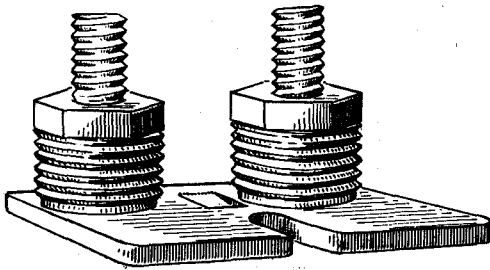
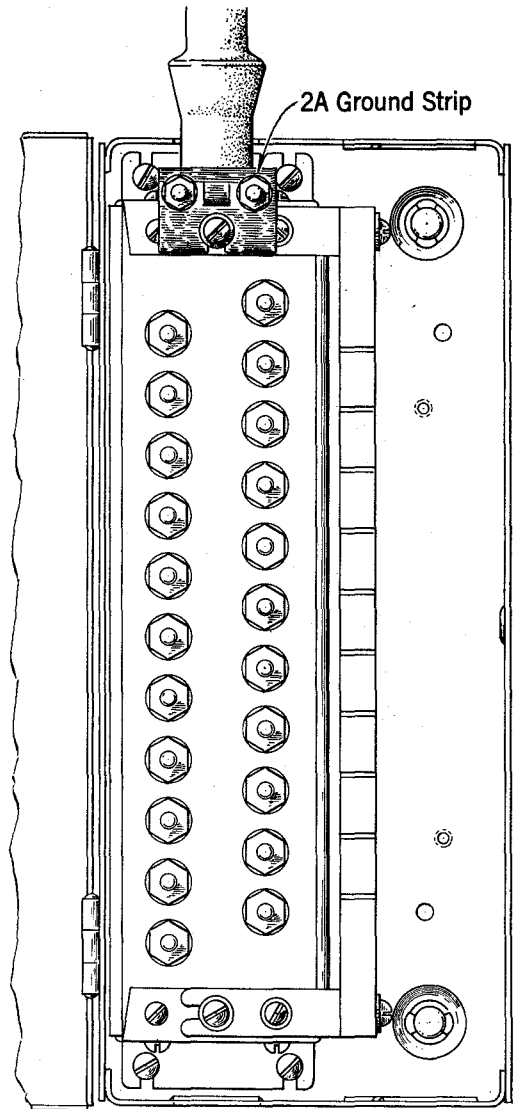

Fig. 67—2A Ground Strip
Fig. 68—2A Ground Strip Installed in GA-Type Cable Terminal
7.03 The 2A ground strip (Fig. 67) consists of a brass plate with two binding posts. The plate has a "U"-shaped slot for a mounting screw and a depressed tab which prevents the ground strip from turning after it is installed. The 2A ground strip has a capacity of 14 wires. The 2A ground strip installed in a GA-type cable terminal is illustrated in Fig. 68. The 2A ground strip can also be installed on the backboard of a PC6 or PC12 cable closure.